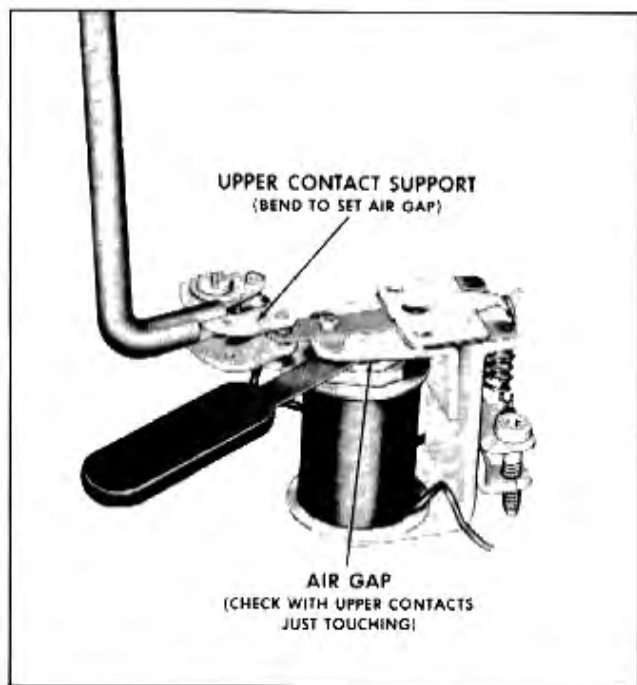

Fig. 12-33 Dual Contact Voltage Regulator Air Gap Check and Adjustment
1. With upper contact points just touching, measure air gap between armature and winding core as shown in Fig. 12-33. Gap should be .080".